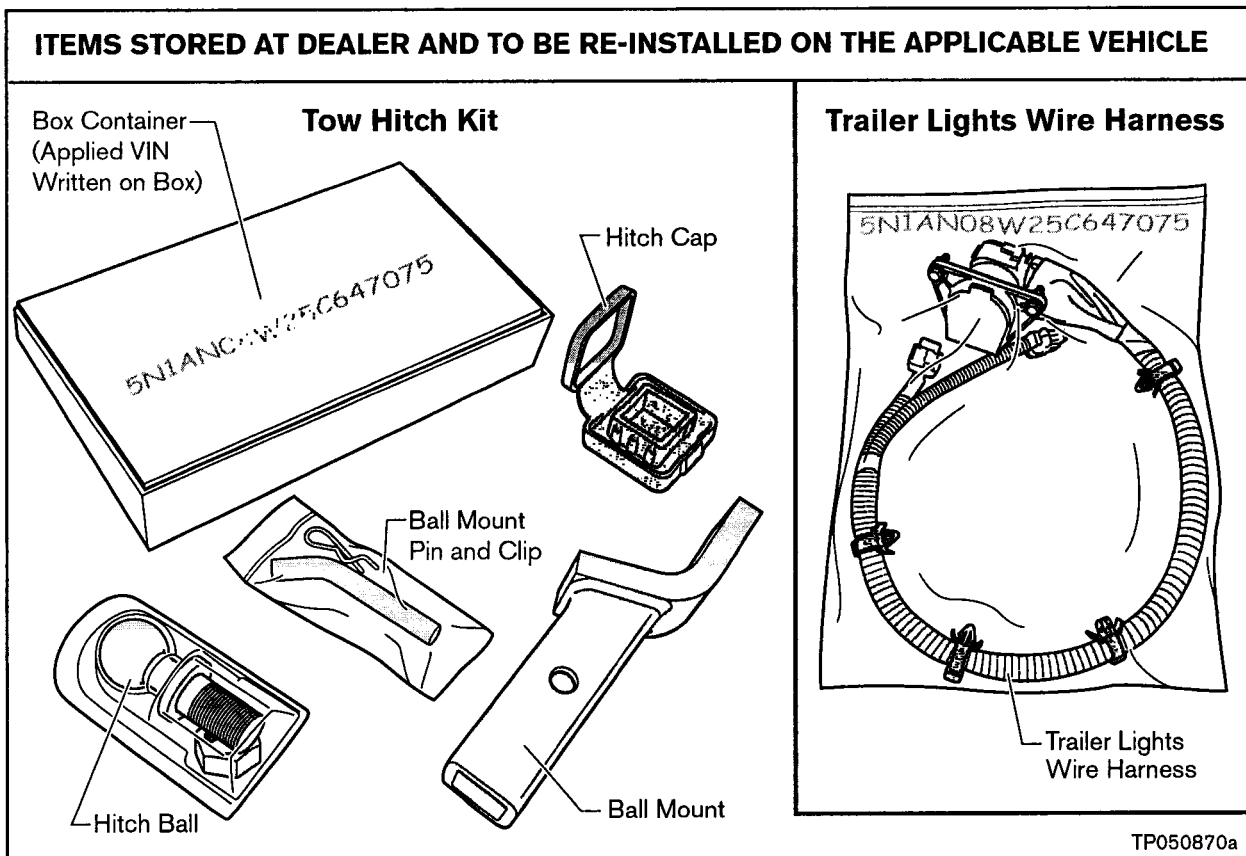

Figure B1
1. Obtain the components shown in Figure B1.
13. Make sure the Tow Hitch Kit (shown in Figure B1) is returned to the customer.